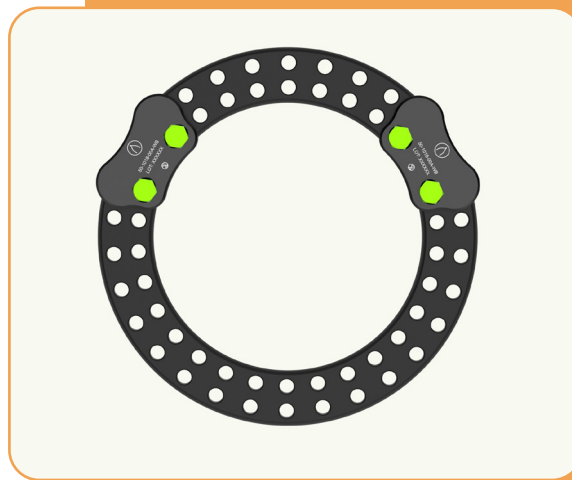

Fig. 34a - Assemble Second Level of Frame
- 29 A Full Ring can be built above a previously affixed Ring using a 2/3 and 1/3 Ring of the same size with the 1/3-2/3 Ring Connector, 20mm (green) Connection Bolts (x2) and Nuts (x2) (Fig. 34a) or two 1/2 Rings of the same size with 20mm (green) Connection Bolts (x2) and Nuts (x2) (Fig. 34b).